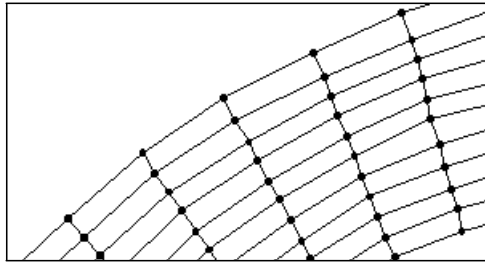

Figure 6 The mesh section after merging triangles
5. Repeat the above split/merge process until there are no more triangles across the section. This part of the mesh should look like Figure 6.